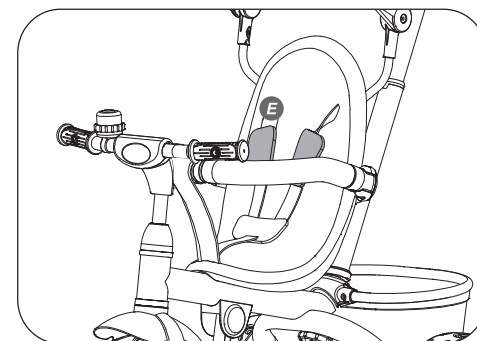

Fig. 13
17. Attach one Harness Pad **E** to each of the upper straps of the 3-Point Safety Harness (See Fig. 13).